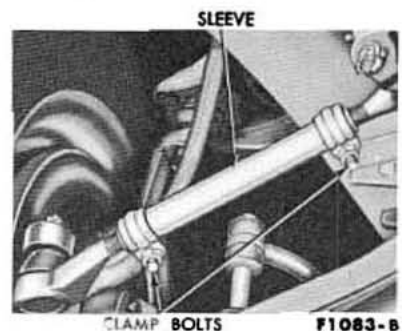

Fig. 83—Spindle Connecting Rod Sleeve—Typical
Toe-in is adjusted by means of the sleeve (Fig. 83) at the outer end of each spindle connecting rod. The toe-in specification is specified in Group 3 of the appropriate Shop Manual.
2. To adjust toe-in, loosen the two clamps on each spindle connecting rod sleeve (Fig. 83). Lengthen or shorten both spindle connecting rods an equal amount to obtain the cor-